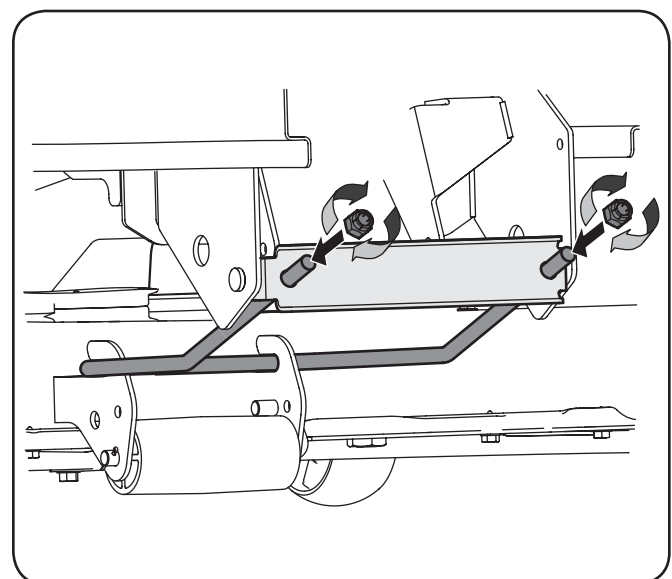

Figure 2-3
7. Insert the ends of the front hanger through the holes in the front hanger bracket and secure with the two lock nuts removed earlier. See Fig. 2-3.